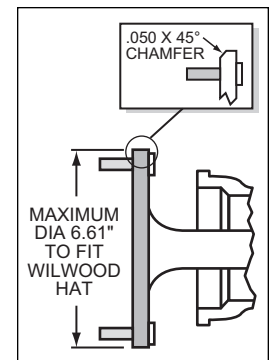

Figure 3. Axle Flange Maximum Dimension
- Maximum axle flange diameter must be no larger than 6.61" w/.050" x 45° chamfer (see Figure 3, right).